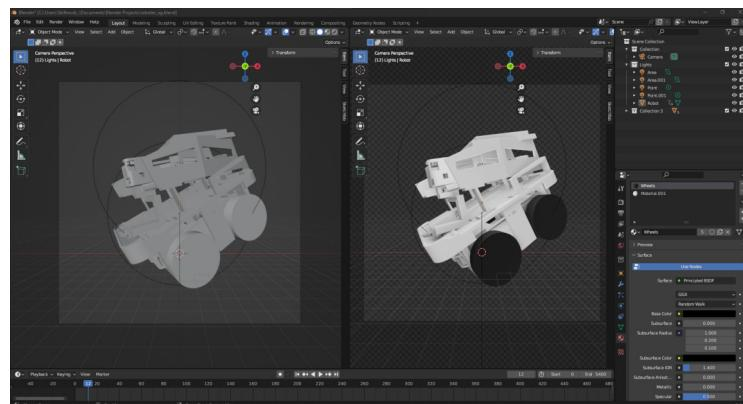

Figure 38: Blender Workspace
- Using the 3D Model which Tim created in Fusion360 to create a image sequence in Blender where only every 2nd angle is a image to save on memory as seen in Fig. 38